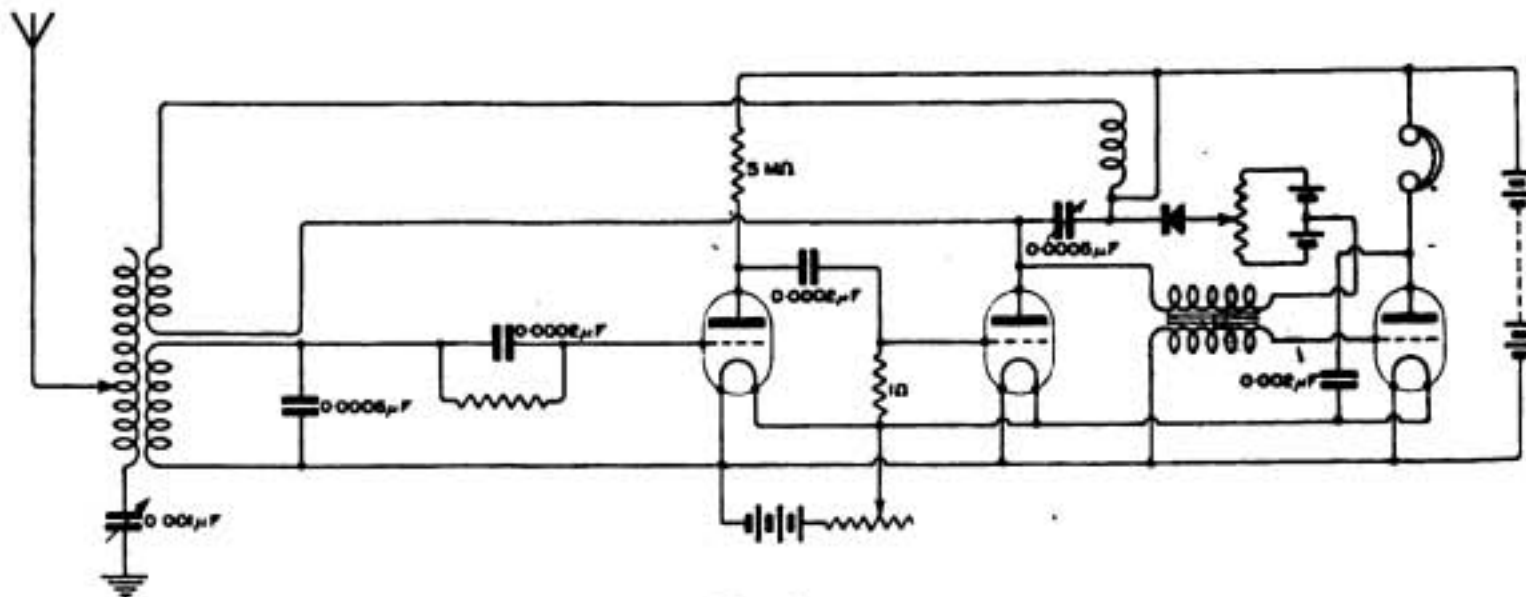

Fig. 2.
See diagram. (Fig. 2.)
**"R.E.W." (Holyhead)** asks with regard to the shunt control method for a radiophone transmitter (1) Is this system of radiophone transmission used successfully by amateurs. (2) In Mr. P. R. Coursey's article on this subject in the April issue,
what should be the value of B.2 (Fig. 2) to give a total input of 10 watts, using R type valves with V.1 and V.2. (3) Can this circuit be used for C.W., if so, where should the key be connected. (4) Is it necessary to have L.3 and L.4 (Fig. 2) of heavy gauge wire.
(1) The system is quite a good one. It has undoubtedly been used in certain forms by amateurs, but we do not know how far this particular modification has been applied. (2) You will not get a full 10 watts from 2 R valves efficiently. The 10 watts could be obtained by putting up the H.T. voltage, but the power radiated would not be increased. 150 volts will be as high as you can usefully apply. (3) Yes, insert the key in the grid circuit of the control valve, adjusting the static potential of the grid with a potentiometer until the best results are obtained. (4) The wire need not be of very heavy gauge for this power. Use, say, No. 18, or better, 7/24 or 7/26 stranded cable.